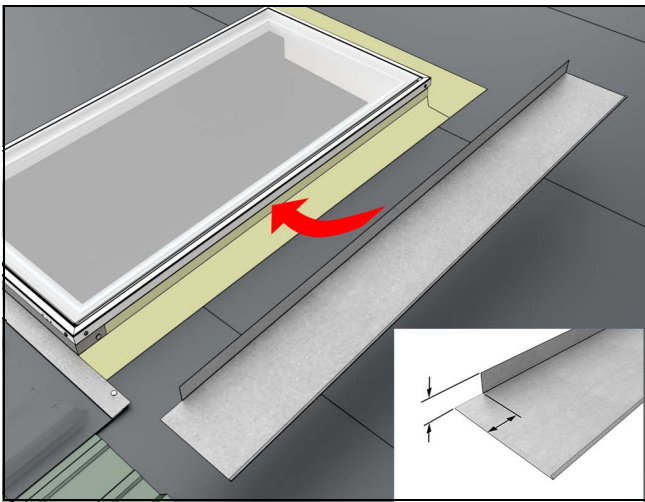

Figure 52
3. Remove material from vertical leg flush to sill apron assembly. Place jamb flashing tight to skylight jamb, align bottom of flashing to start of flexible apron material, mark back side of jamb flashing (2"). Attach with roofing nails. Repeat on opposite side. See Figure 52.